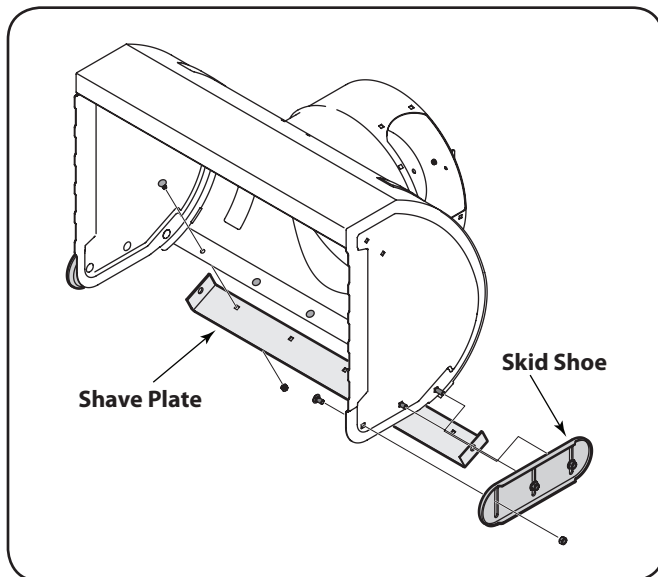

Figure 6-1
1. Remove the six carriage bolts, hex nuts, and bell washers that secure the two skid shoes to the sides of the auger housing. Refer to Figure 6-1.
2. Position the new skid shoes and secure with the carriage bolts, bell washers, and hex nuts. Make certain the skid shoes are adjusted to be level. See Figure 6-1.